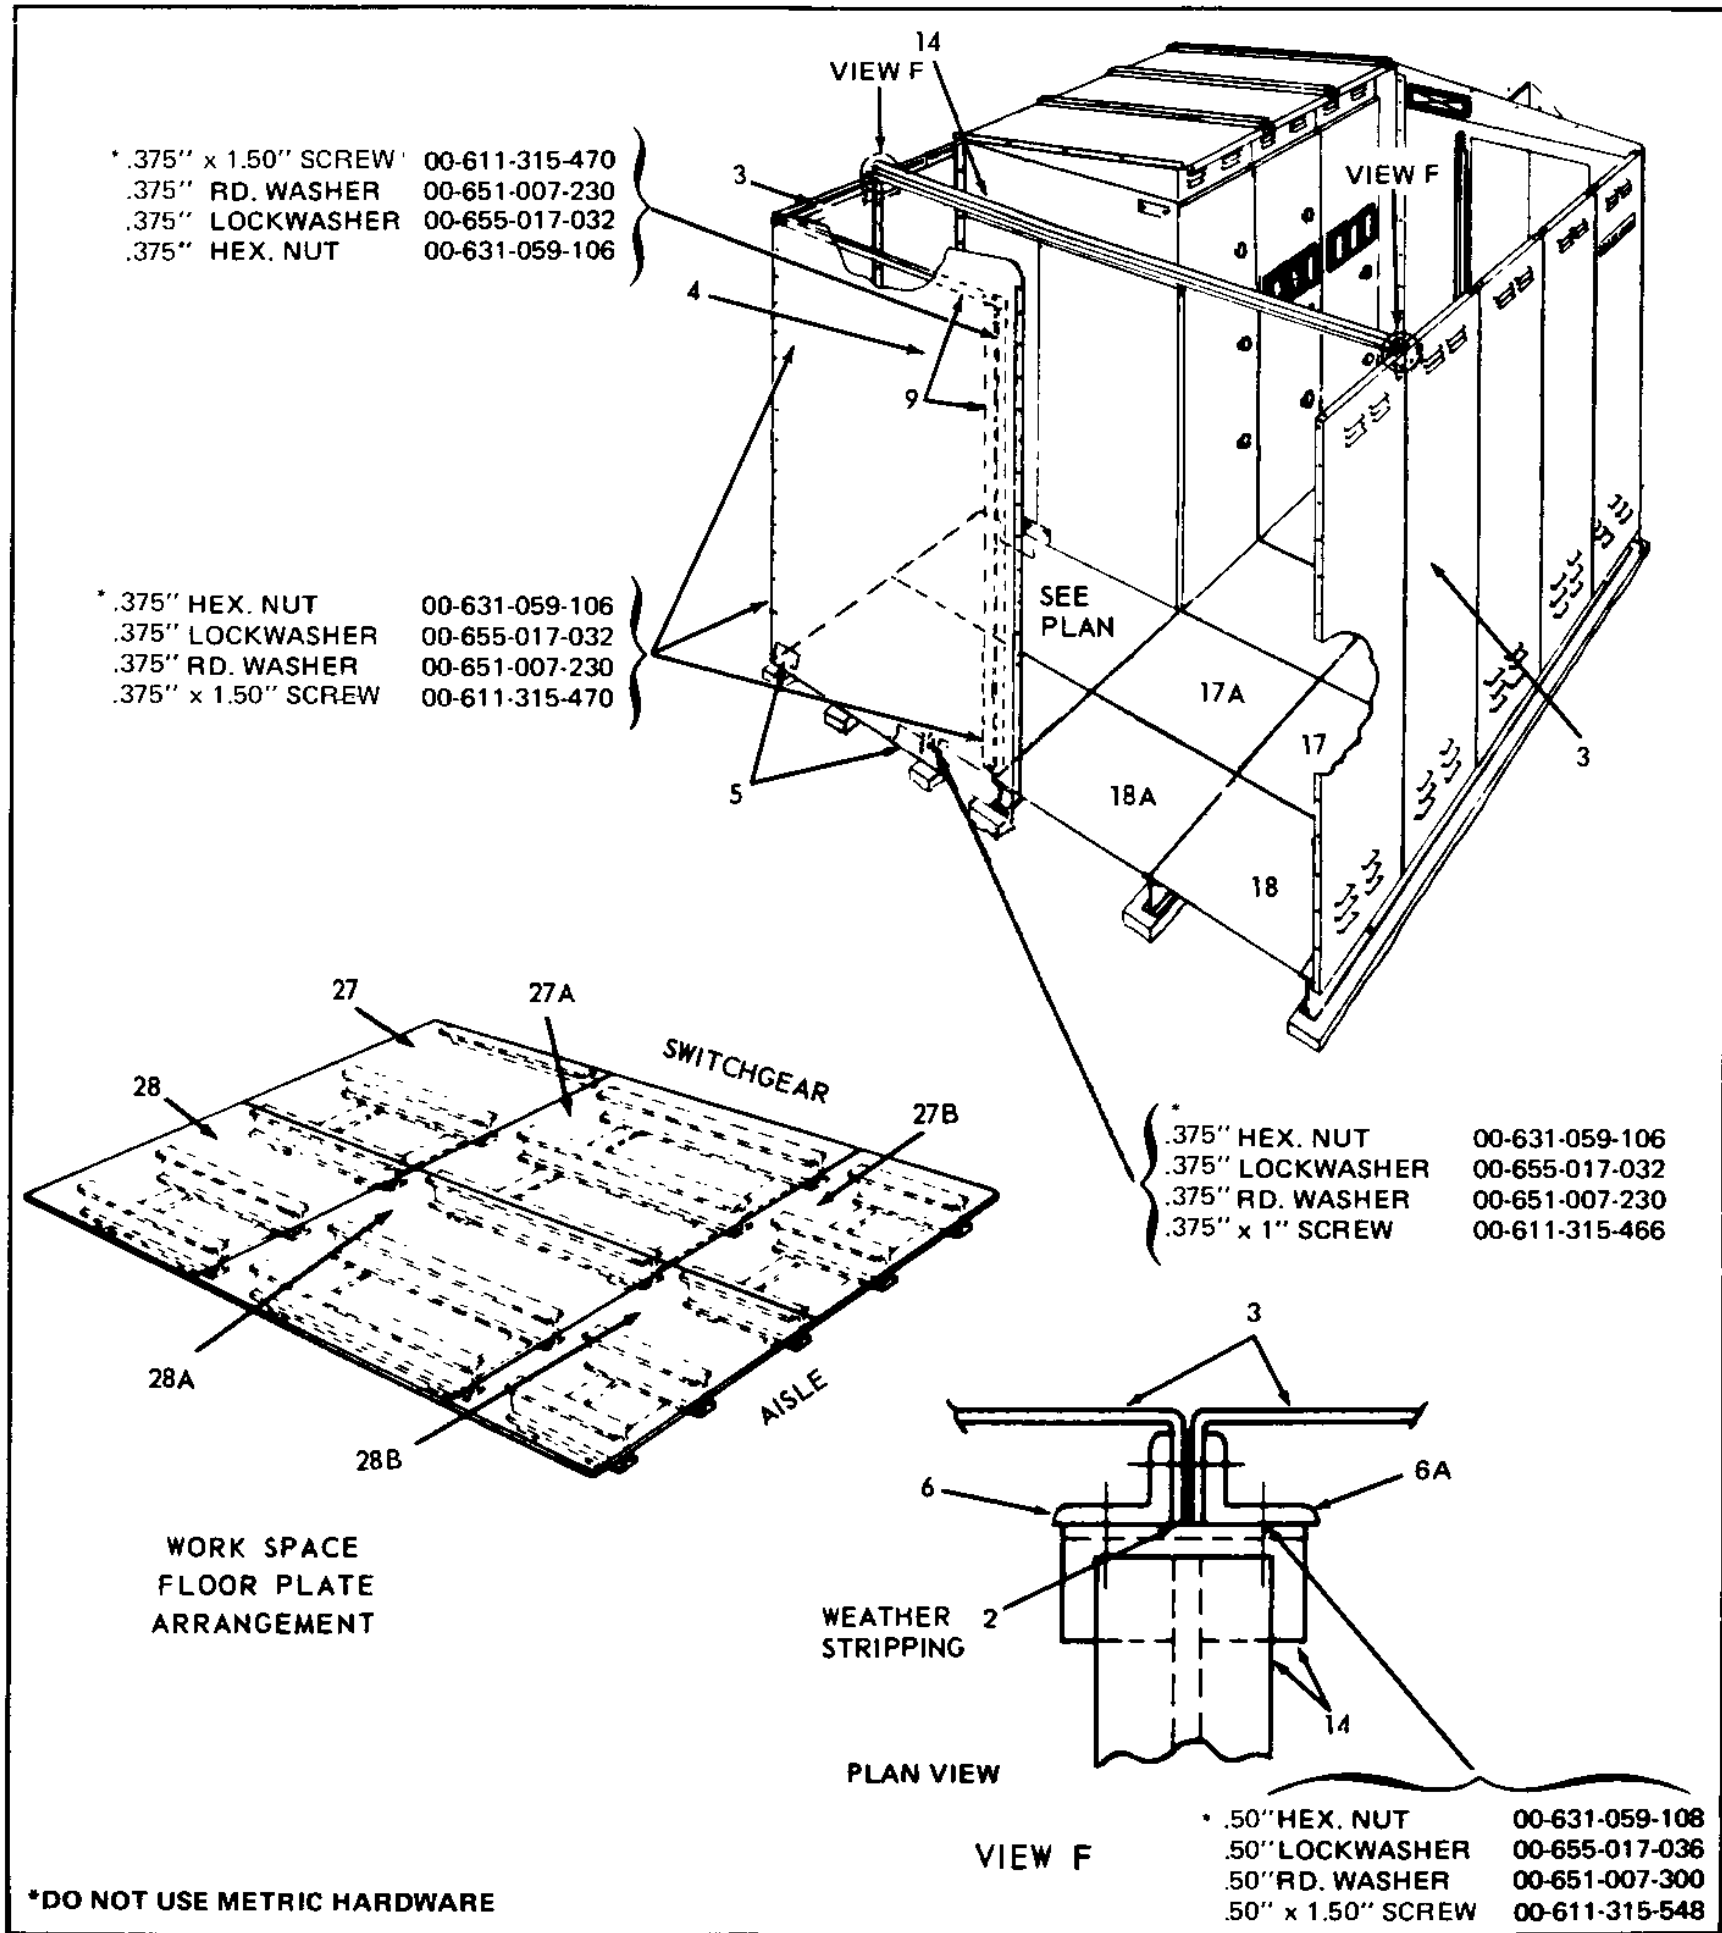

Figure 42. Floor Plate Installation (15 kV) – Single Aisle with Work Space
6. Assemble aisle walls (3). See general arrangement drawing for location of special panels for fans, etc. Apply .50-inch (12.7 mm) sealant tape to the joints. Place the tape so that one edge is on the vertical centerline of the holes and the other edge is toward the seam which will be exposed to the weather.
7. Bolt plates (3) together, to switchgear unit and to beam (1). Apply .50-inch (12.7 mm) sealant tape to the joints.
8. Attach angles (10) to ends of beams.
9. See Figure 42. Mount beams (14) between walls at each joint (view "F").
10. Mount frame (9) at end of work space.
11. Install end cover (4) and attach it to rear plate (3), frame (9) and to angles (10).
12. Install floor plates (17, 17A, 18 and 18A) in the same arrangement as that for single aisle layouts (see Figure 26). Install the floor plates in the work area as shown in Figure 42. Install covers (5).